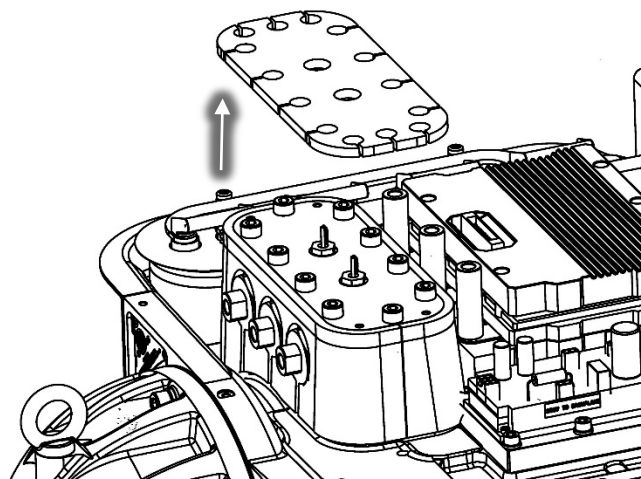

Figure 5 – Insulation Removal
15. Remove the insulation from the Cover Plate. Refer to Figure 5 (Insulation Removal).